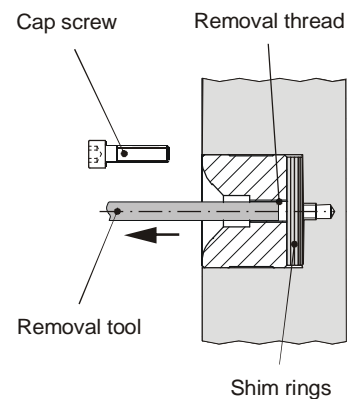

Fig. 7
In order to add shim rings, the thrust piece must be removed using a removal tool after the cap screw (11) has been screwed out (Fig. 7).